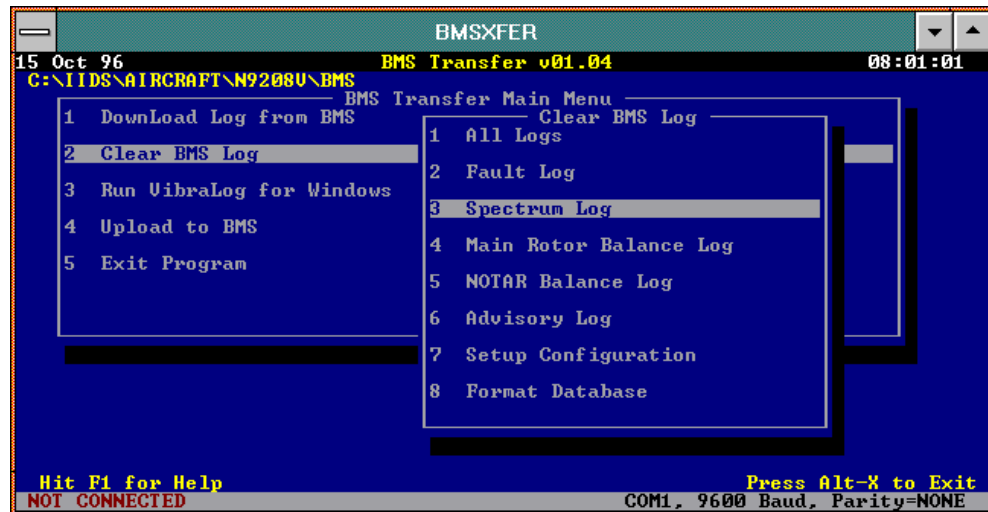

Figure 63. BMS Clear Logs Menu Screen
3. Select log to clear using the ($\uparrow \downarrow$) arrow keys, or press the menu option number (1, 2, 3, etc.), and press the **ENTER** key (refer to Figure 63).